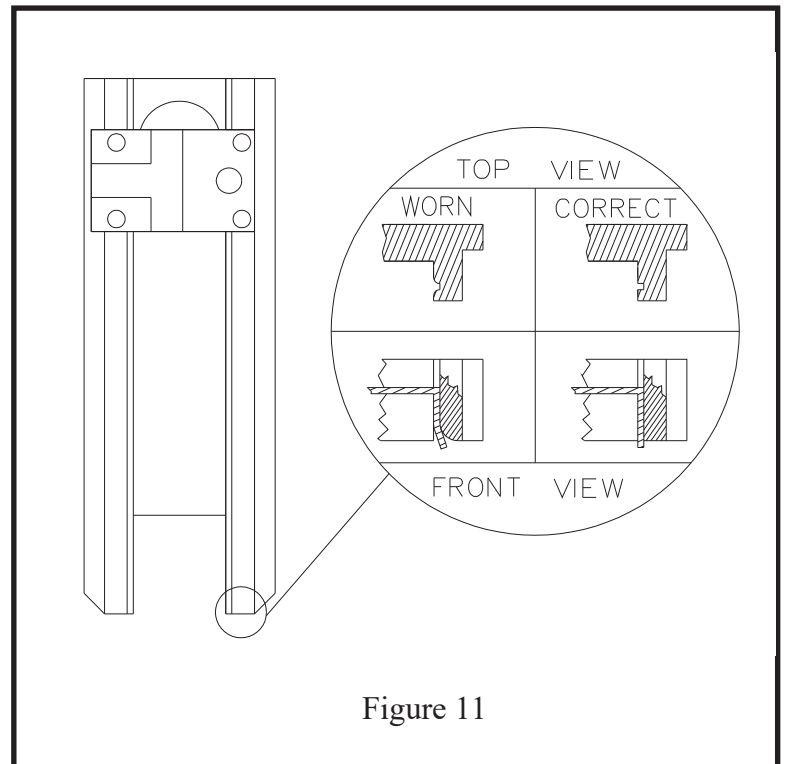
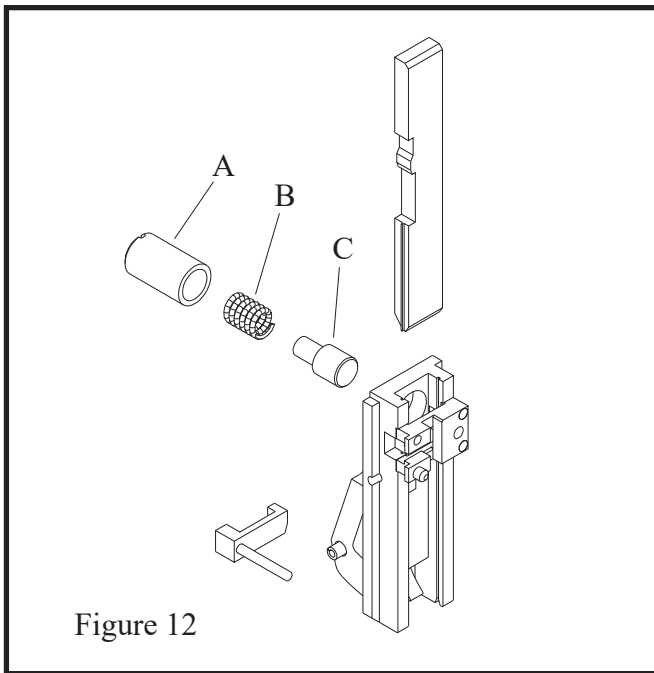

Figure 11
Figure 12
D. Bender Bar (Fig. 11)
The bender bar bends the wire over the rotator and forms it into an unclinched stitch. The legs of the stitch are guided towards the work material by the bender bar grooves. The legs of the unclinched stitch should be perpendicular to the crown. When the bender bar grooves become worn, the legs tend to flare out (Fig. 11) as they emerge from the grooves. This causes the legs to strike the clincher improperly. As a result, one or both legs will crumple and a broken driver bar or a broken bender bar can result. If the lower end of the bender bar grooves become chipped, it will not support the wire and may cause the stitch to break at the crown. Replace the bender bar assembly (See "G" page 19 or Fig. 12). Other bender bar functions are related to wire cutting ("I" page 20), and driving ("F" page 18).
E. Bender Bar Friction Plug And/Or Spring (Fig.12)